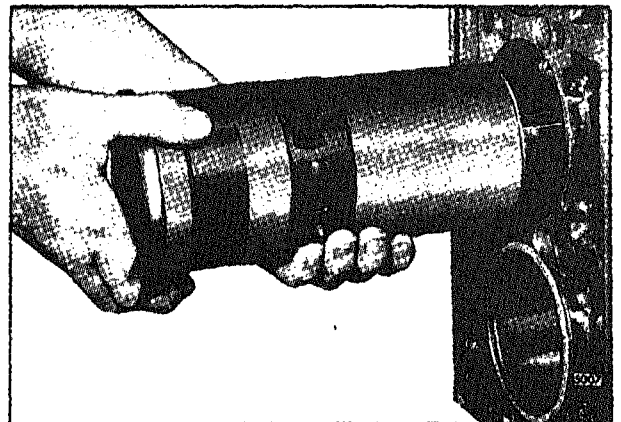

Fig. 10 - Installing Piston, Rod and Liner Assembly in Cylinder Block
6. Position the piston, rod and liner assembly in line with the block bore (Fig. 10) so the identification number on the rod is facing